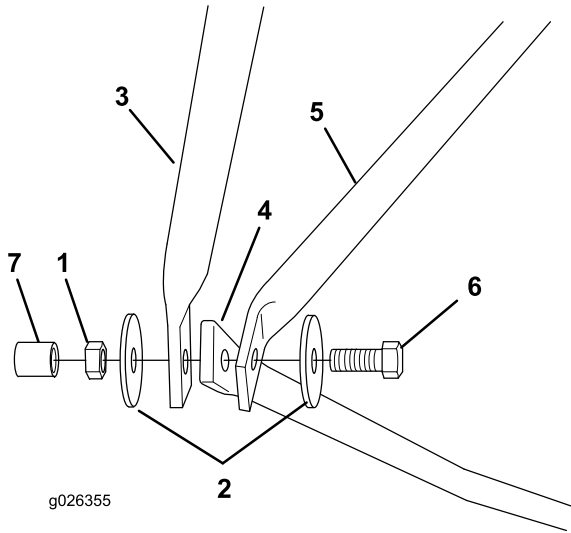

Figure 6
- Position the rear frame with the top tabs facing forward and the bottom ends to the outside of the other frame ends (Figure 6).
- Hold the rear frame upright and tighten the locknuts (Figure 6).
15. Tighten all fasteners securely and insert the end caps on the bolt ends that extend from the washers (Figure 6).